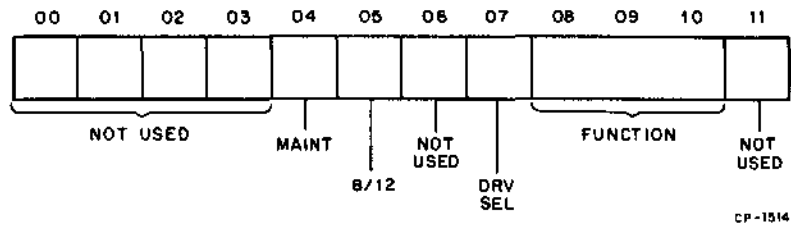

Figure 4-2 Command Register Format (RX8E)
4.3.1 Command Register (Figure 4-2)